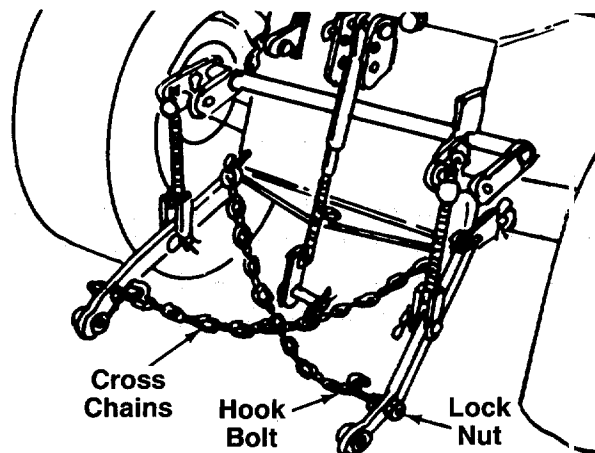

FIGURE 10.
10. Fasten the chains to the hooks welded on the draft bars. Cross the chains over and attach to the opposite hook bolts. See figure 10.